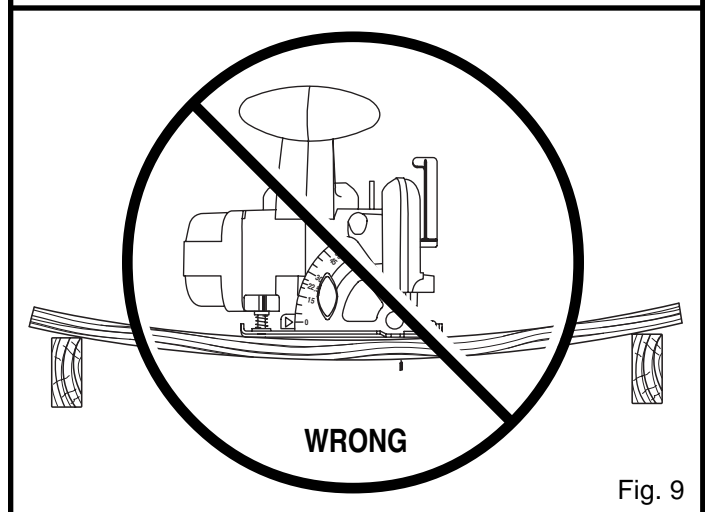

Fig. 9
- Incorrectly supporting workpiece. See Figure 9.
- To avoid pinching the blade, support the workpiece properly before beginning a cut. The right and wrong ways to support large pieces of work are shown in figures 9 and 11.